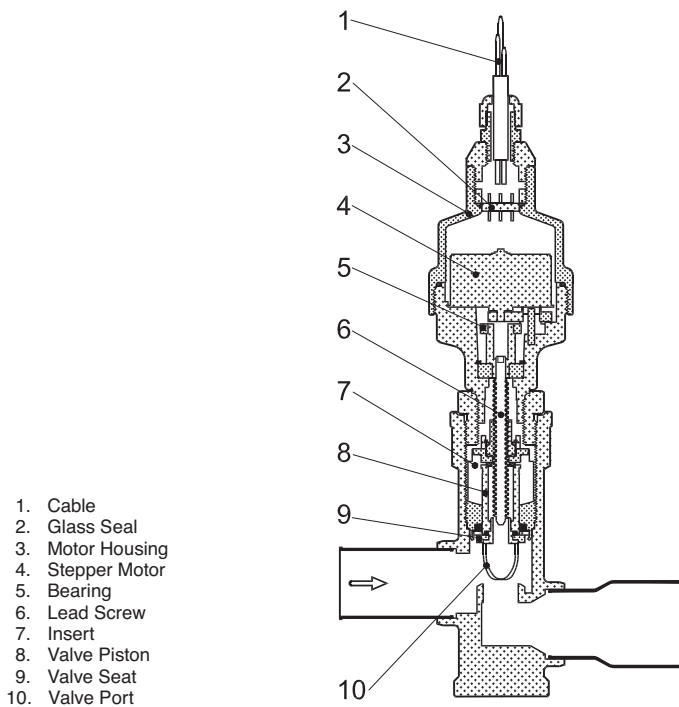

Fig. 26 — Cutaway View of the Electronic Expansion Valve
Electronic Expansion Valve (EXV) — See Fig. 26 for a cutaway view of the EXV. High-pressure liquid refrigerant enters valve through the top. As refrigerant passes through the orifice, pressure drops and refrigerant changes to a 2-phase condition (liquid and vapor). The electronic expansion valve operates through an electronically controlled activation of a stepper motor. The stepper motor stays in position, unless power pulses initiate the two discrete sets of motor stator windings for rotation in either direction. The direction depends on the phase relationship of the power pulses.
3. The expansion valve motor is hermetically sealed inside the top portion of the valve. See Fig. 26. Carefully unscrew the $1\frac{1}{16}$ in. (27 mm) retaining nut securing the motor portion to the body of the valve making sure the EXV plug is still connected. The EXV operator will come out with the motor portion of the device.
4. Enter the appropriate EXV test step under the (**Service Test**→**QUIC**) sub-mode in the Service Test mode. Locate the desired item **Service Test**→**QUIC**→**EXV.A**, **Service Test**→**QUIC**→**EXV.B**, or **Service Test**→**QUIC**→**EXV.C**. Press **[ENTER]** twice to make the valve position of 0% flash. Press and hold **[▲]** until 100% is displayed and press **[ENTER]**. Observe the operation of the lead screw. See Fig. 26. The motor should be turning, raising the operator closer to the motor. Motor actuator movement should be smooth and uniform from fully closed to fully open position. Press **[ENTER]** twice, use **[▼]** to select 0% and press **[ENTER]** again to check open to closed operation. If the valve is properly connected to the processor and receiving correct signals, yet does not operate as described above, the sealed motor portion of the valve should be replaced.